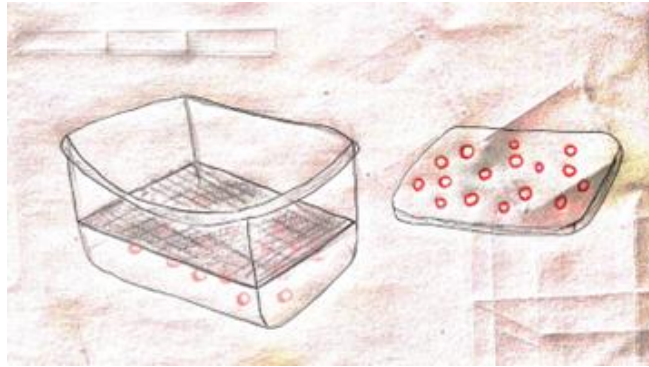

Figure 14: Drawing of the finished container with the lid with holes attached.
3.- The final result is the following (*Figure 14*)